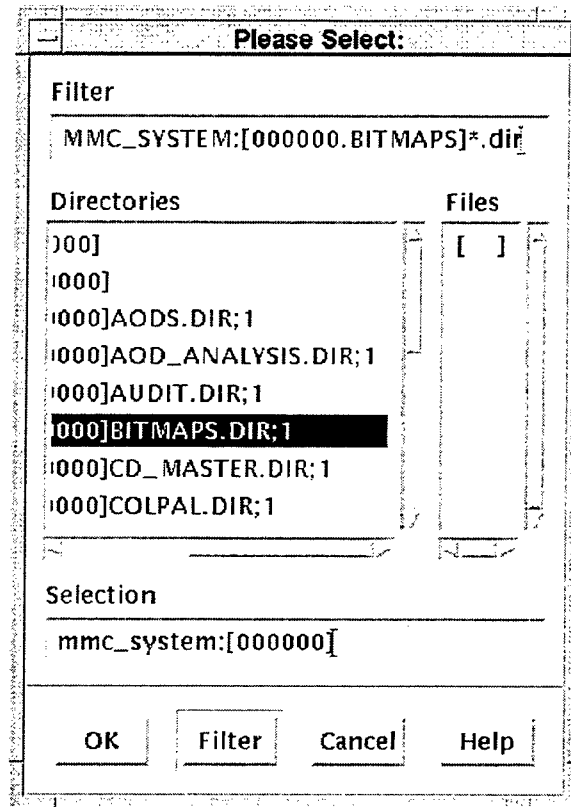

Fig. 35 — File selection window: MMC files to be archived to CD
- 6) **Other Data:** Use this option to archive any other data on the MMC system. (It is particularly important to backup the *bitmaps* directory on a regular basis). MMC will display a verification message (select *Yes* to proceed) then a **File Selection Window** to help the user find the directory and file(s) to be included (Fig. 35). After selecting the data files, MMC will guide the user through the necessary steps to Premaster the ISO Image.